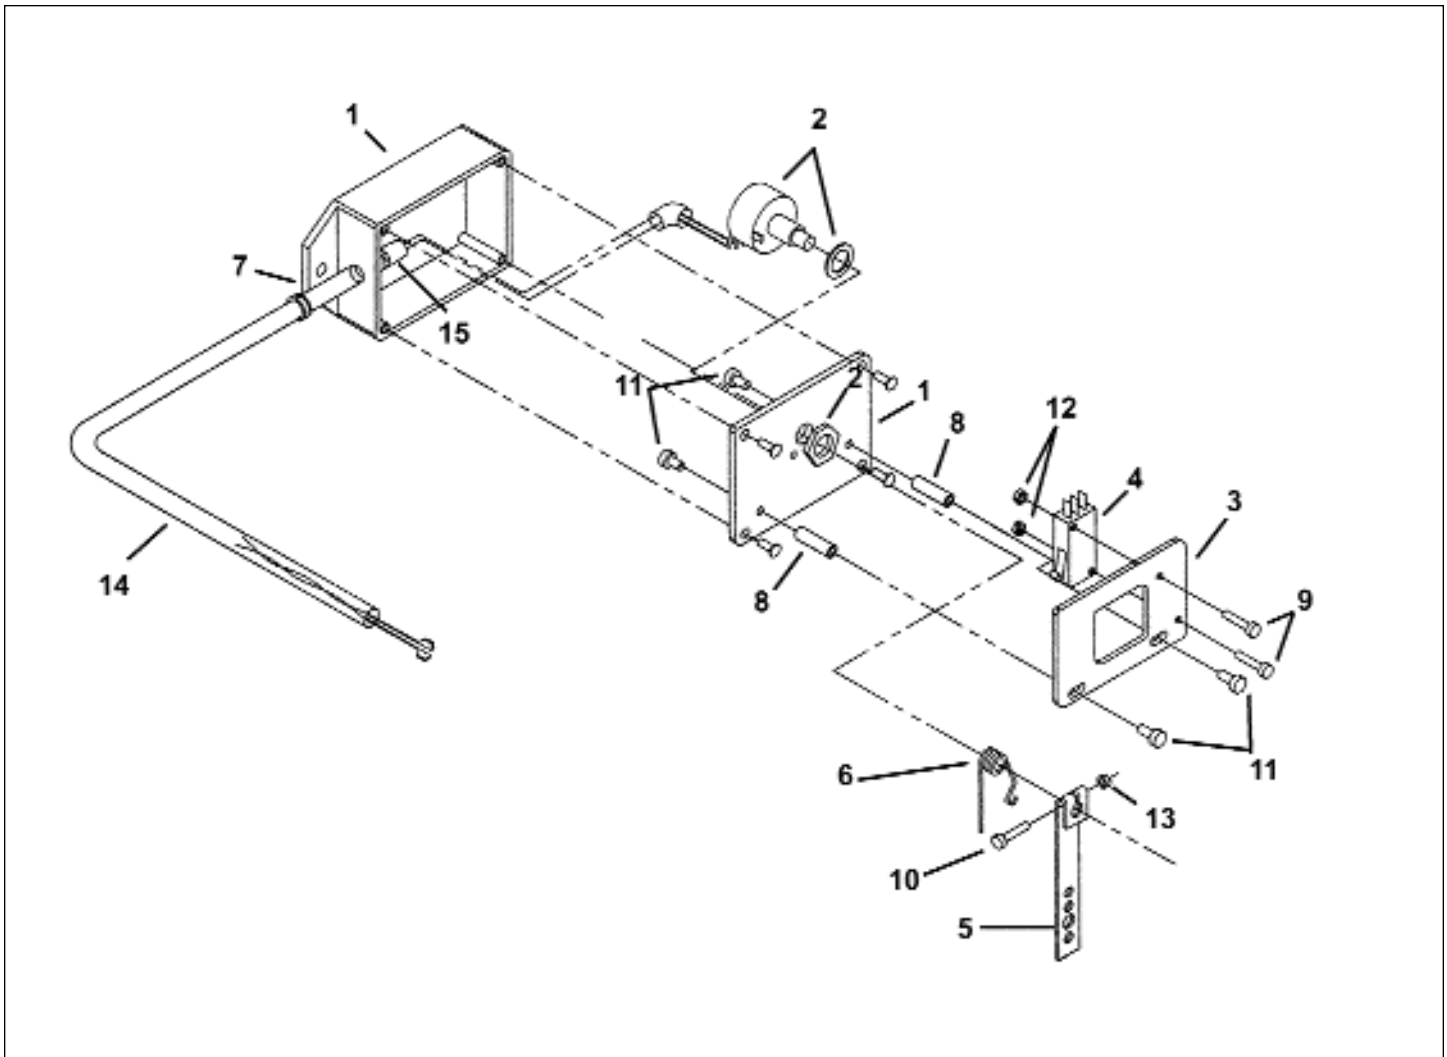

Figure 21 - Speed Switch Assembly
**Note:** Refer to Figure 21, page 8-22.
1. Remove two screws (Figure 21, #11) holding micro switch plate to support spacers.
5. Remove nut holding pot switch into cover, and remove pot switch. See Figure 21#2)
4. Install spacers (2) to outside of pot box cover.
6. Install return spring and speed switch lever to pot switch. See Figure 21. Do not torque clamp screw until adjustment has been completed.